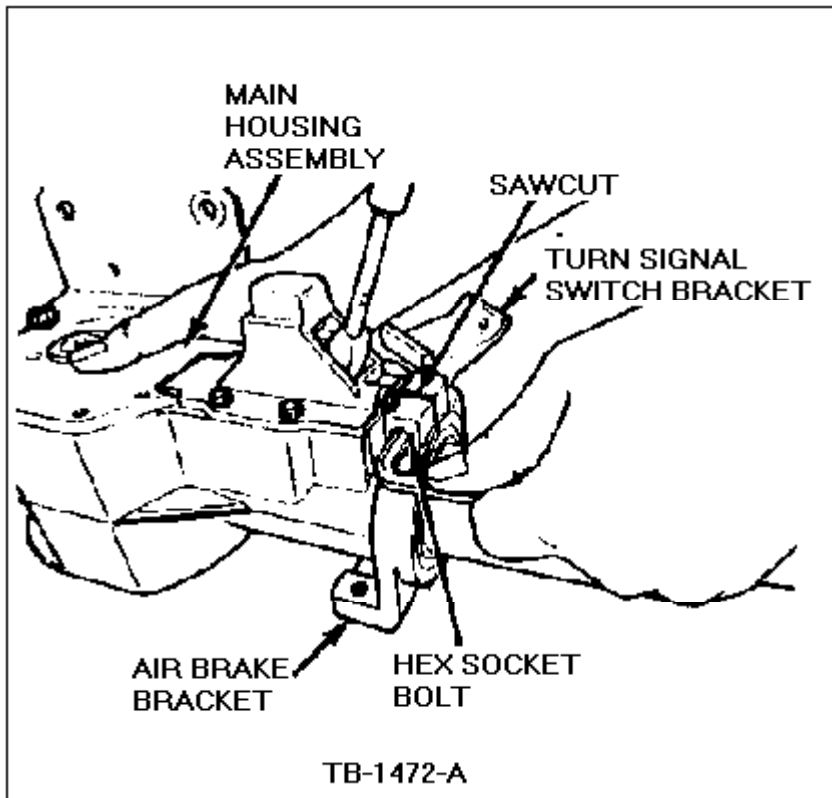

Figure 5 - Article 90-5-10
2. Remove the two (2) T25 Torx screws from the horn contact housing.
4. Remove the turn signal switch and bracket from the air brake bracket, Figure 5.
5. Remove the air brake bracket using a 1/4 inch Allen wrench, Figure 5.